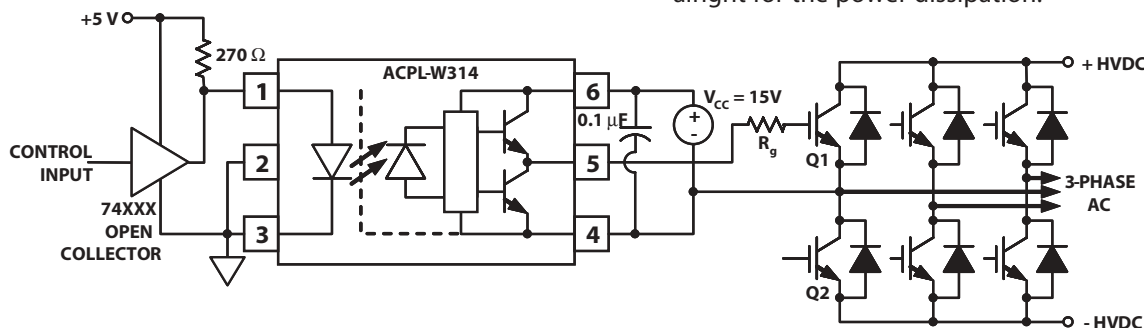
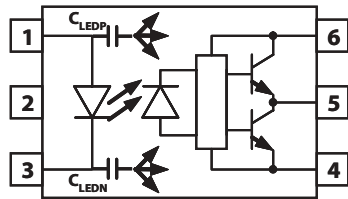
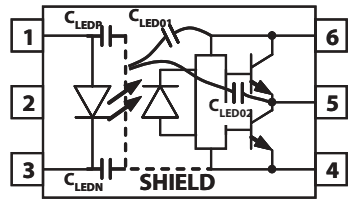

Figure 19. Recommended LED Drive and Application Circuit for ACPL-W314
Figure 21. Optocoupler Input to Output Capacitance Model for Unshielded Optocouplers.
Figure 22. Optocoupler Input to Output Capacitance Model for Shielded Optocouplers.
To keep the IGBT firmly off, the ACPL-W314 has a very low maximum  $V_{OL}$  specification of 1.0 V. Minimizing  $R_g$  and the lead inductance from the ACPL-W314 to the IGBT gate and emitter (possibly by mounting the ACPL-W314 on a small PC board directly above the IGBT) can eliminate the need for negative IGBT gate drive in many applications as shown in Figure 19. Care should be taken with such a PC board design to avoid routing the IGBT collector or emitter traces close to the ACPL-W314 input as this can result in unwanted coupling of transient signals into the input of ACPL-W314 and degrade performance. (If the IGBT drain must be routed near the ACPL-W314 input, then the LED should be reverse biased when in the off state, to prevent the transient signals coupled from the IGBT drain from turning on the ACPL-W314.)
Step 1: Calculate  $R_g$  minimum from the  $I_{OL}$  peak specification. The IGBT and  $R_g$  in Figure 19 can be analyzed as a simple RC circuit with a voltage supplied by the ACPL-W314.
where  $K_{ICC} \cdot Q_g \cdot f$  is the increase in  $I_{CC}$  due to switching and  $K_{ICC}$  is a constant of 0.001 mA/(nC\*kHz). For the circuit in Figure 19 with  $I_F$  (worst case) = 10 mA,  $R_g = 32\Omega$ , Max Duty Cycle = 80%,  $Q_g = 100$  nC,  $f = 20$  kHz and  $T_{AMAX} = 85^\circ\text{C}$ :
Without a detector shield, the dominant cause of optocoupler CMR failure is capacitive coupling from the input side of the optocoupler, through the package, to the detector IC as shown in Figure 21. The ACPL-W314 improves CMR performance by using a detector IC with an optically transparent Faraday shield, which diverts the capacitively coupled current away from the sensitive IC circuitry. However, this shield does not eliminate the capacitive coupling between the LED and optocoupler pins 5-8 as shown in Figure 22. This capacitive coupling causes perturbations in the LED current during common mode transients and becomes the major source of CMR failures for a shielded optocoupler. The main design objective of a high CMR LED drive circuit becomes keeping the LED in the proper state (on or off) during common mode transients. For example, the recommended application circuit (Figure 19), can achieve 10 kV/ $\mu$ s CMR while minimizing component complexity.
The open collector drive circuit, shown in Figure 24, can not keep the LED off during a  $+dV_{CM}/dt$  transient, since all the current flowing through  $C_{LEDN}$  must be supplied by the LED, and it is not recommended for applications requiring ultra high CMR1 performance. The alternative drive circuit which like the recommended application circuit (Figure 19), does achieve ultra high CMR performance by shunting the LED in the off state.